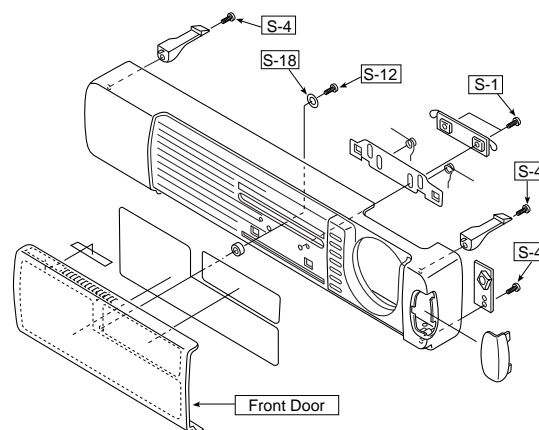

Fig. 5
- 5) Disassembling the front panel (See Fig. 5.)
Remove the screw (S-12) shown in Fig. 5, and detach the front door.